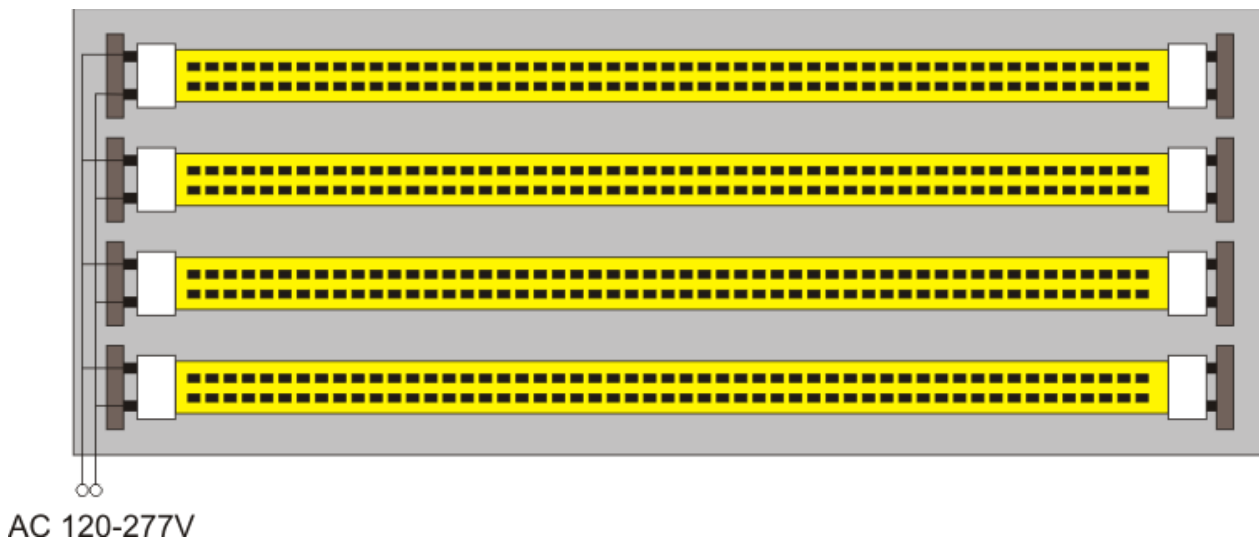

Figure 3 Quad Tube Fixture / Luminaire
c. These LED tubes can retrofit (for example) four lamps in one luminaire. The revised circuit diagram as shown in Fig.3.